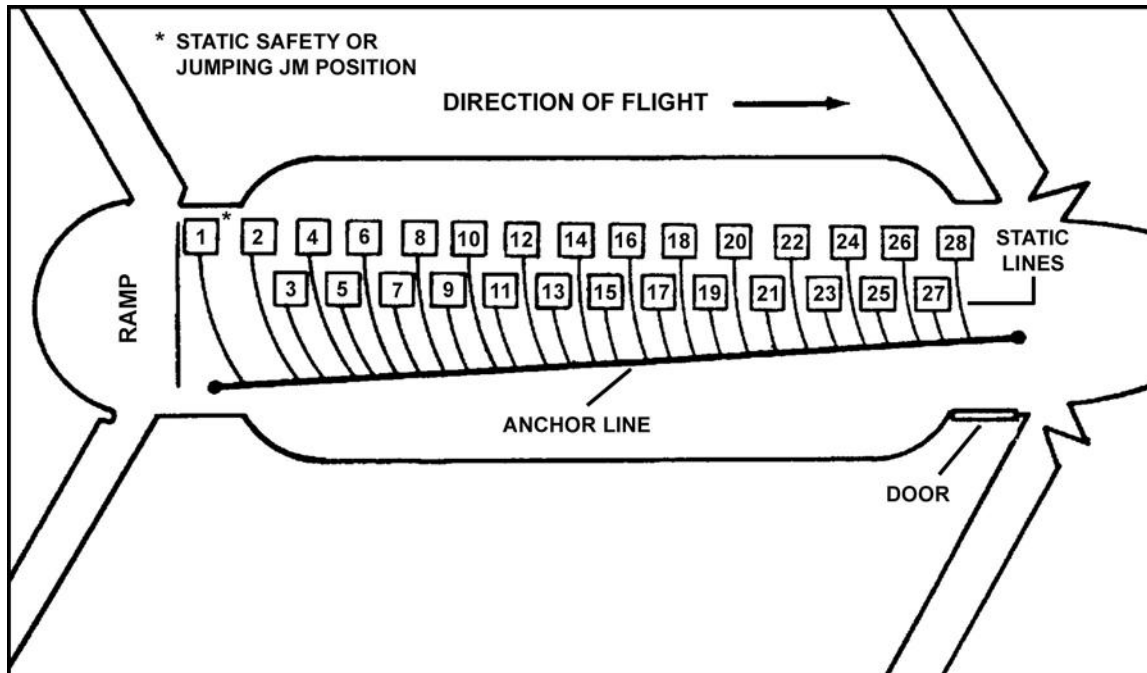

Figure 17-21. CH-47 static line routing.
b. **Jumpmaster.** The JM or safety personnel ensure that parachutists are hooked up consecutively, 1 through 28 (Figure 17-21, page 17-22). If the JM does not jump, he wears a safety harness or back emergency parachute. He checks each parachutist after they hook up and controls the flow of parachutists. When an external load is delivered, the JM ensures the external load is clear and the aircraft has accelerated to a safe airdrop speed before dropping cargo bundles from inside the aircraft or before permitting parachutists to exit.